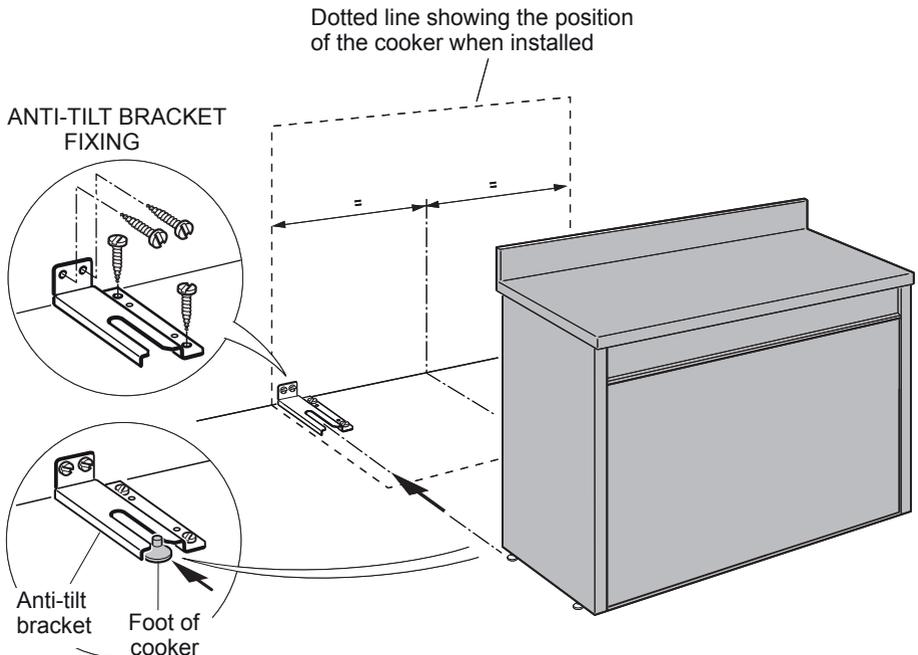

Fig. 8.7
1. After you have located where the cooker is to be positioned, mark on the wall and on the floor the place where the four screws of the anti-tilt bracket have to be fitted. Please follow the indications given in fig. 8.7.
2. Drill four 8mm diameter holes for the fixing screws (two in the wall and two in the floor-see fig.8.7) and insert the plastic plugs supplied.
3. Attach the anti-tilt bracket to the floor and rear wall using the four screws supplied, as shown in fig. 8.7.
4. After attaching the anti-tilt bracket securely, slide the cooker into place. Ensure that the rear right foot slides under the bracket, as shown in fig. 8.7.